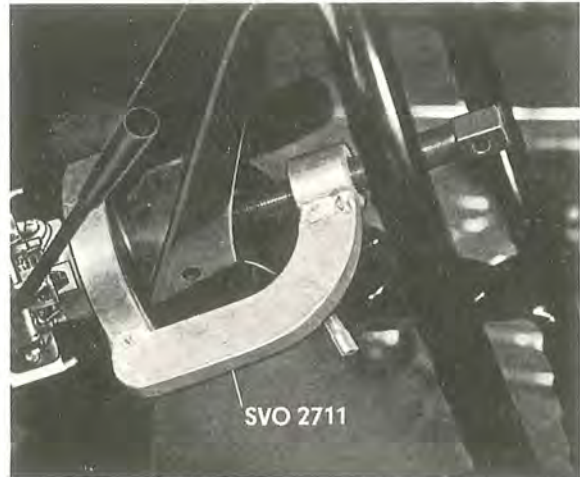

Fig. 6-40. Removing the steering wheel
4. Point the front wheels straight forwards. Fit on the steering wheel puller SVO 2711, see Fig. 6-40, and pull off the steering wheel.